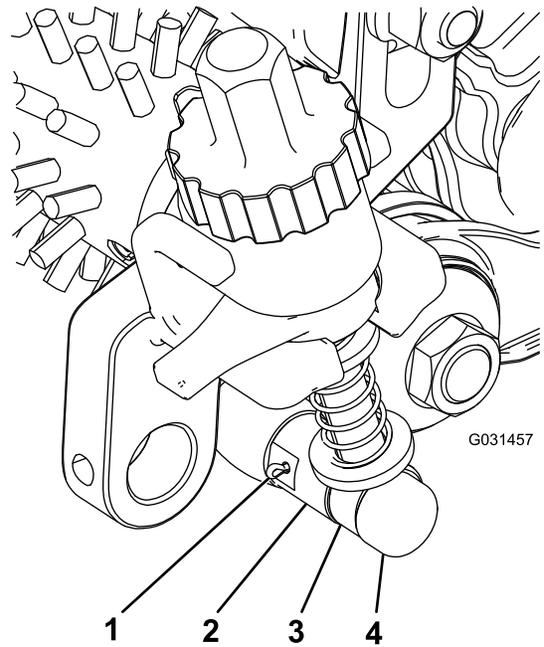

Figure 23
4. Align the adjuster-arm assembly rod near the idler assembly with the adjuster collar on the idler assembly and secure it with an adjuster pin and cotter pin (Figure 23).